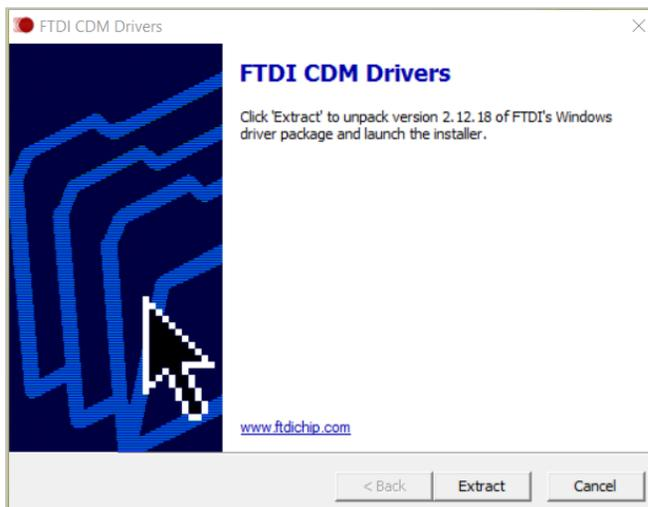

Figure 2-3: Extract FTDI CDM Driver
6. Click the **Extract** button to install FTDI CDM driver as Figure 2-3 shows.